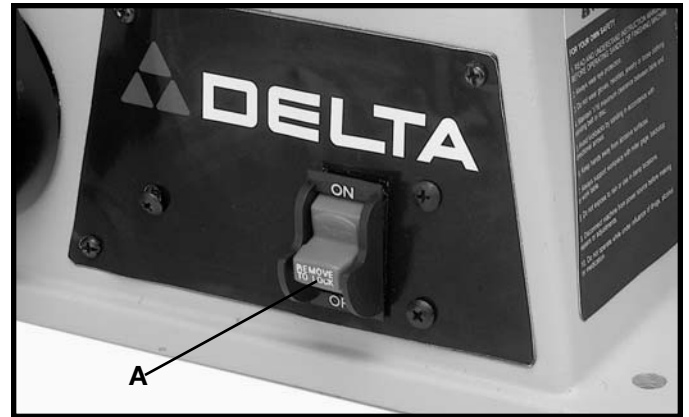

Fig. 22
The switch (A) Fig. 22, is located on the sander base. To turn the sander “ON” move the switch to the up position. To turn the sander “OFF” move the switch to the down position.